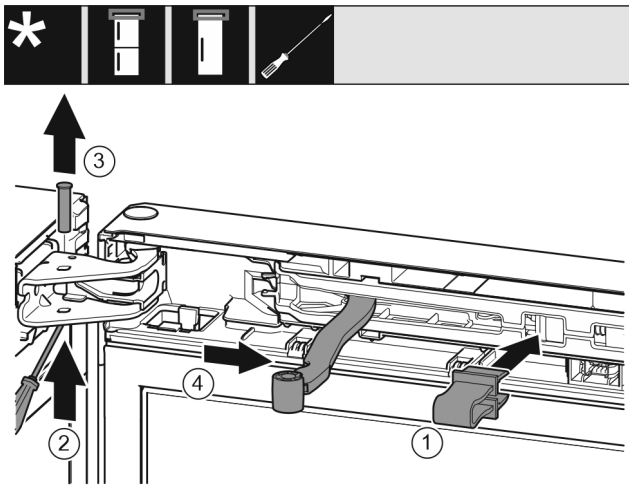

Fig. 9
- ▶ Latch safeguard Fig. 9 (1) into opening.
- ▶ Slide out the bolt Fig. 9 (2).
- ▶ Remove the bolt Fig. 9 (3) upwards.
- ▶ Turn the joint Fig. 9 (4) towards the door.